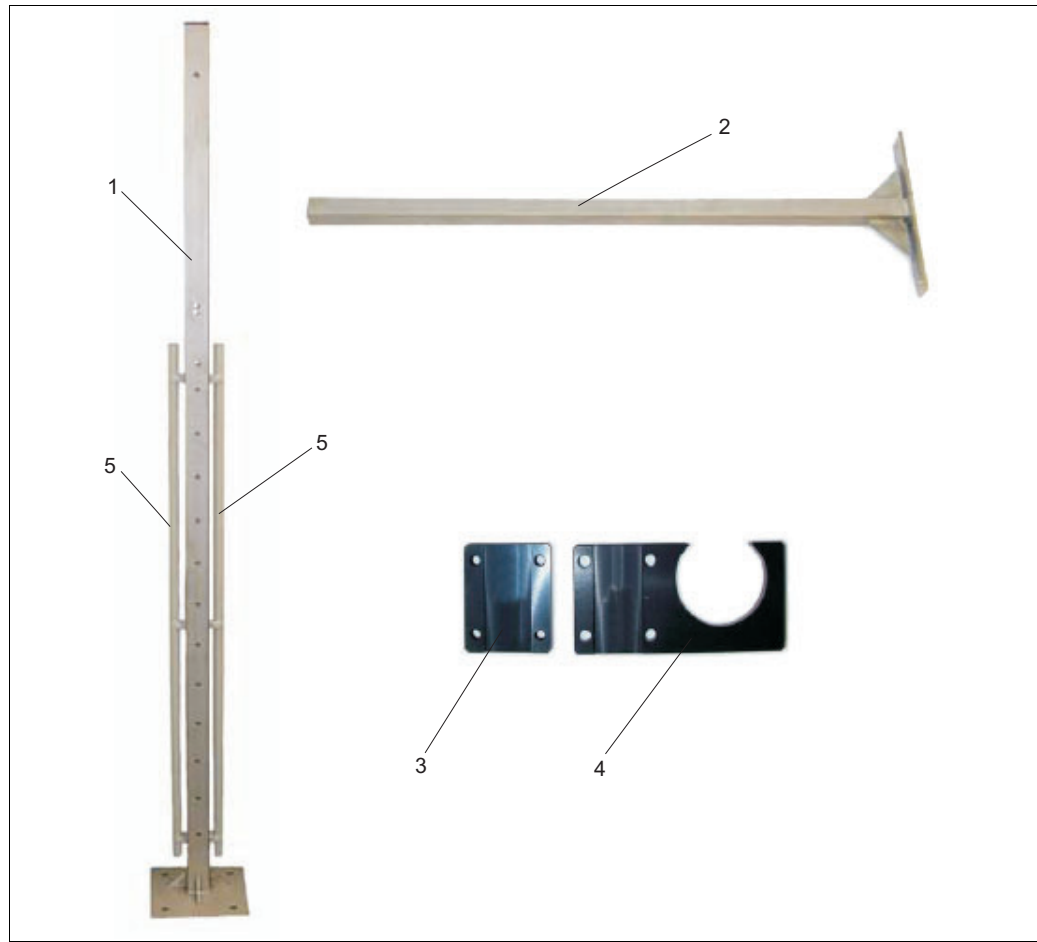

Fig. 5: Upright post with accessories
3. Attach a sensor holder with back support (pos. 3 + 4, Abb. 5) to each of the two supporting arms.